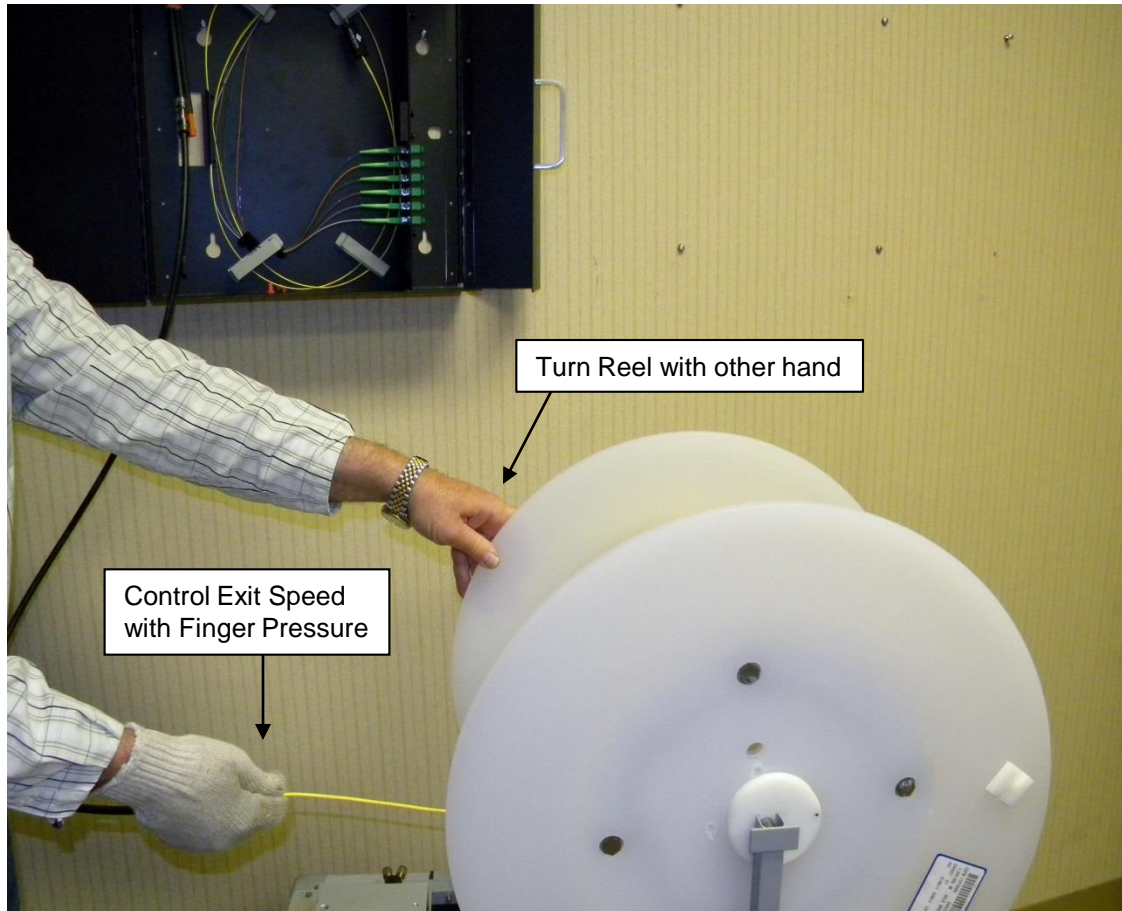

Figure 11
9.8 As fiber bundle exits tube, manually rotate reel to take up bundle. Use a light touch and do not use rotating reel to pull fiber bundle out of tube. **See Fig. 11.**